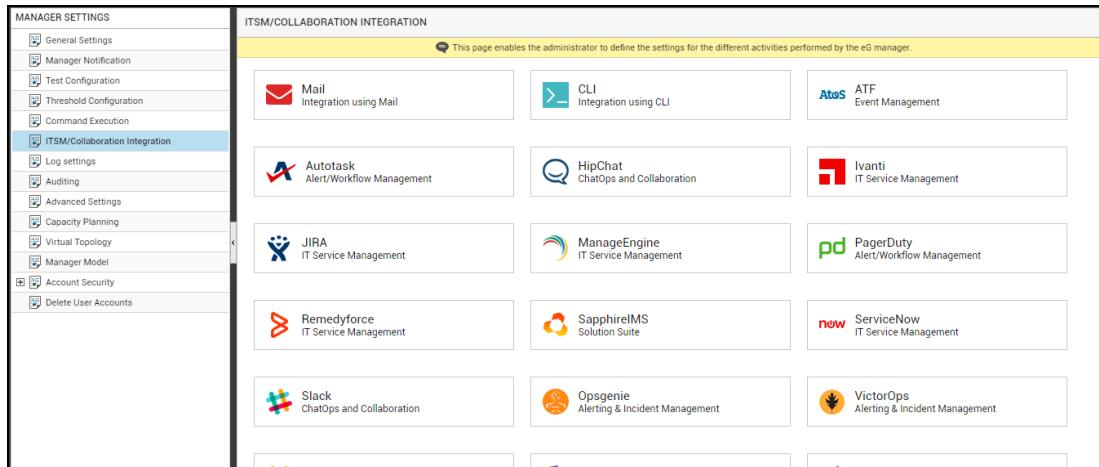
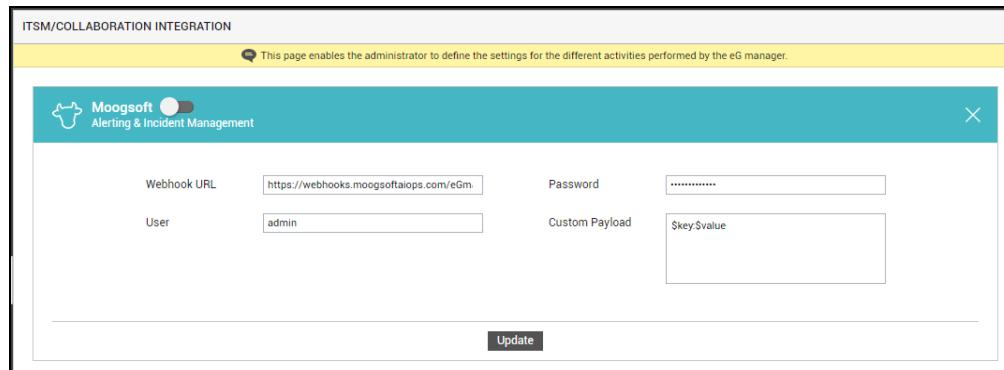

Figure 5.21: Viewing the ITSM/Collaboration tool options
Figure 5.22: Configuring integration with Moogsoft
- Figure 5.21 will then appear. From the **MANAGER SETTINGS** tree in the left panel of Figure 5.21, select the **ITSM/Collaboration Integration** node. The third-party ITSM/Collaboration tools that eG Enterprise can integrate with will be listed in the right panel.
- Now, click on the **Moogsoft** option in the right panel (see Figure 5.21). A **Moogsoft** section will now appear in the right panel (see Figure 5.22).
- To enable integration with Moogsoft, first slide the **Moogsoft** slider in Figure 5.22 to the right.
- Then, specify the following in Figure 5.22:
7. Finally, click the **Update** button in Figure 5.22 to save the changes.